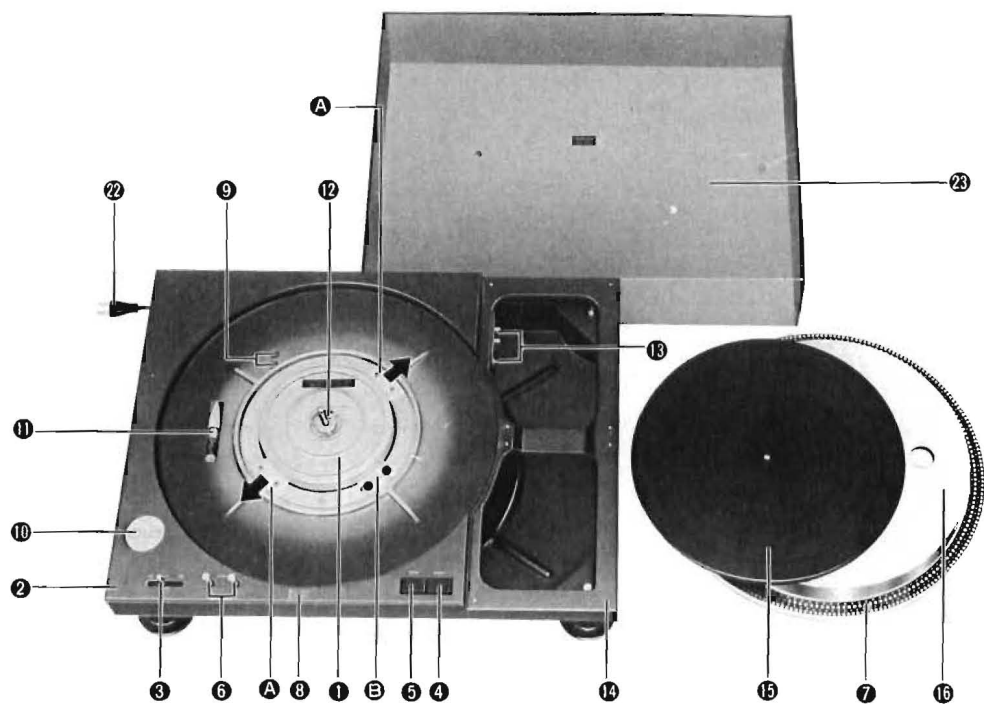

Fig 1
⑮ TURNTABLE MAT (See Fig.1- ⑮)
⑯ TURNTABLE PLATTER (See Fig.1- ⑯)
㉒ AC POWER CORD (See Fig.1- ㉒)
㉓ DUST COVER (See Fig.1- ㉓)